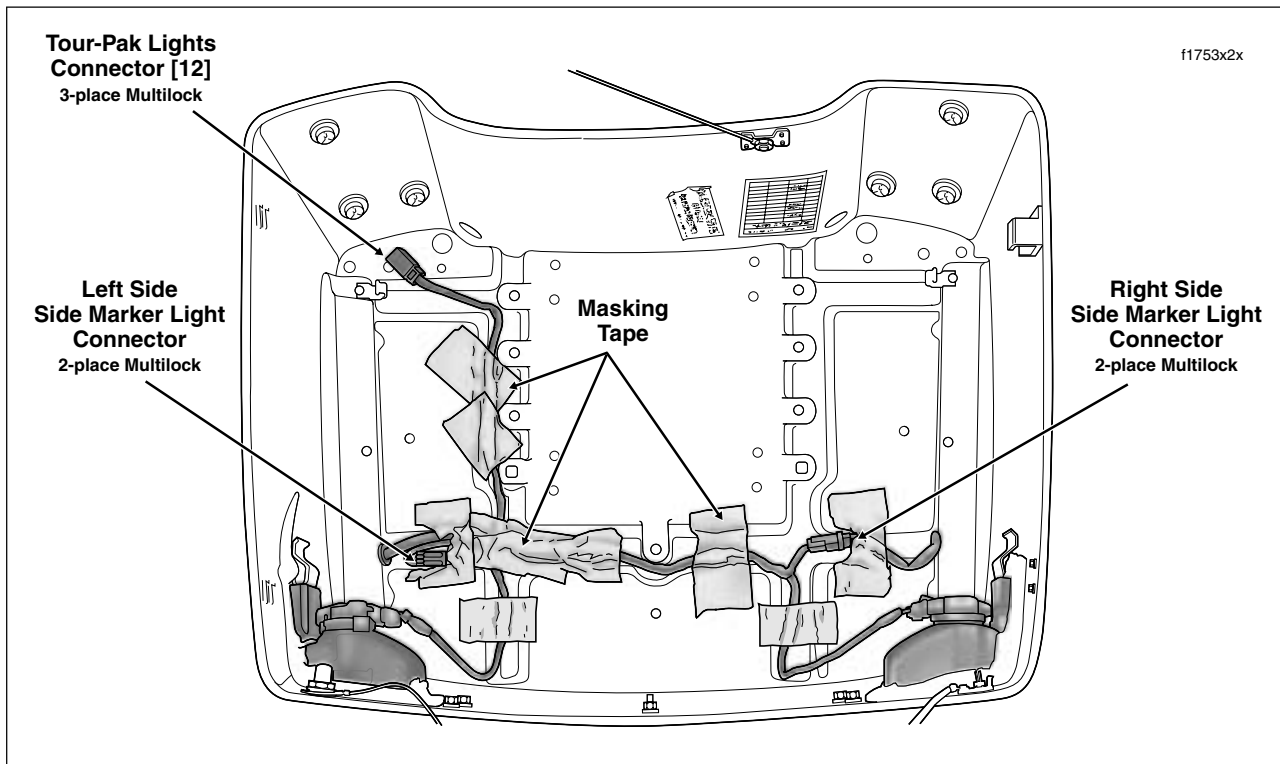

Figure 2-145. Side Marker Light Connectors and Conduit
5. Locate 2-place Multilock connector in channel at bottom of Tour-Pak. Remove masking tape if necessary. See Figure 2-145.
6. Place masking tape over channel to secure position of connector and conduit. See Figure 2-145.